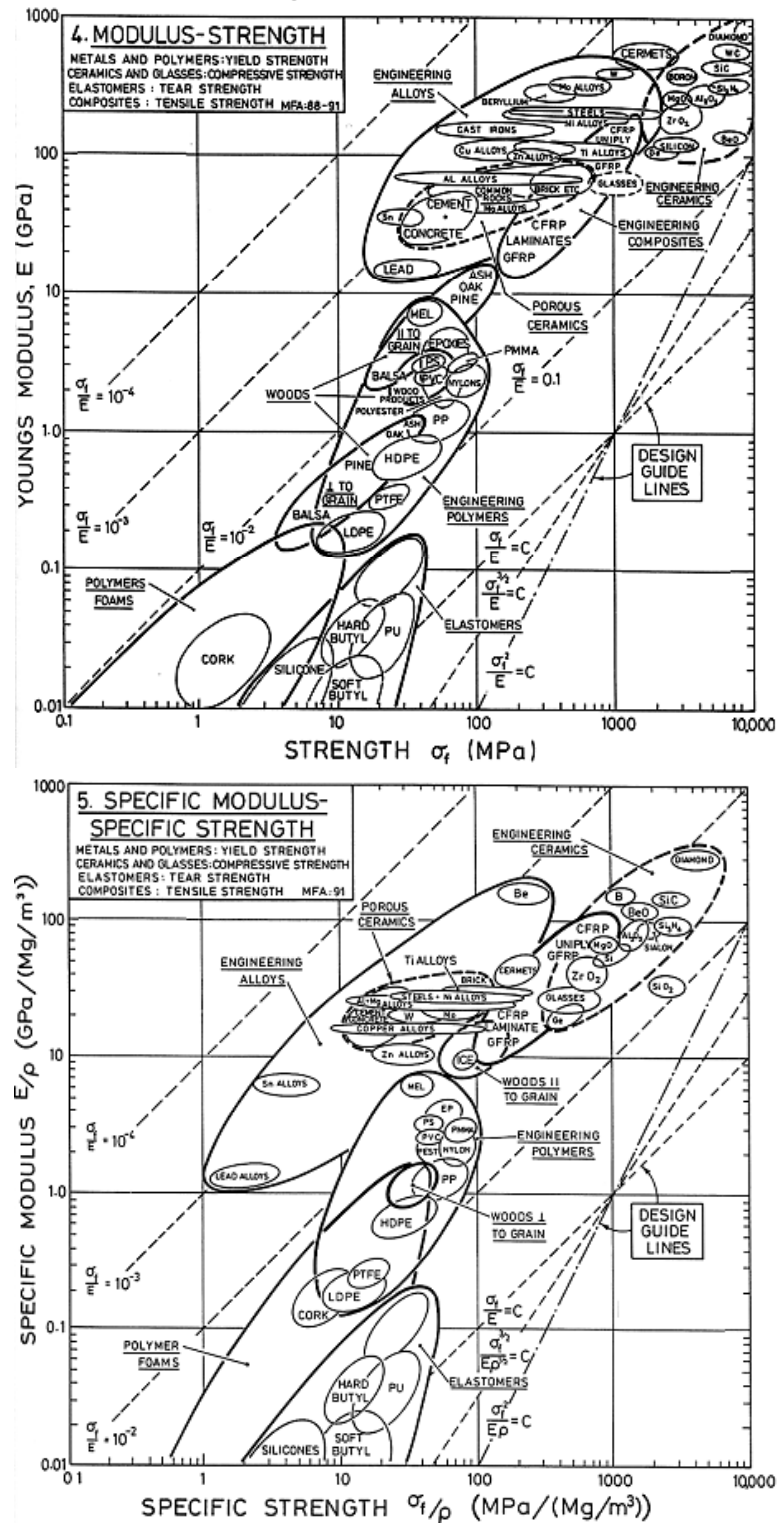

Figure 1 : Selection charts (required for Section B, question 4)
4. What is the rationale behind materials selection charts and how are they used? You may refer to the two selection charts provided at the **end of question paper** (Figure 1). [20%]